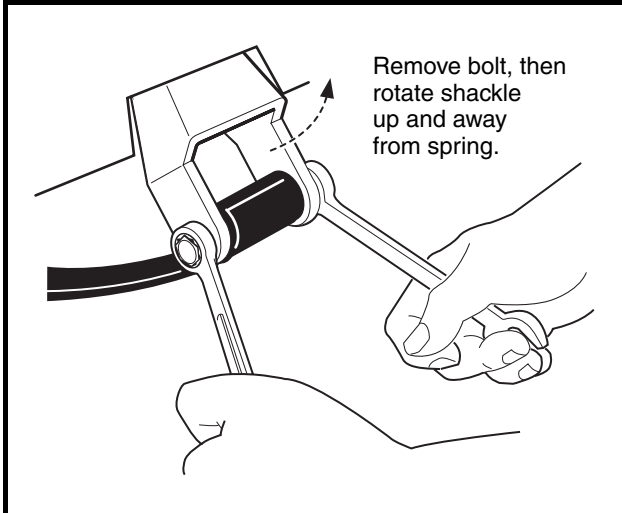

Figure 16-22 Rear Shackle
8. Raise vehicle just enough to relieve tension from leaf springs, then remove the bolts securing the leaf springs to the shackles (**Figure 16-22, Page 16-11**).